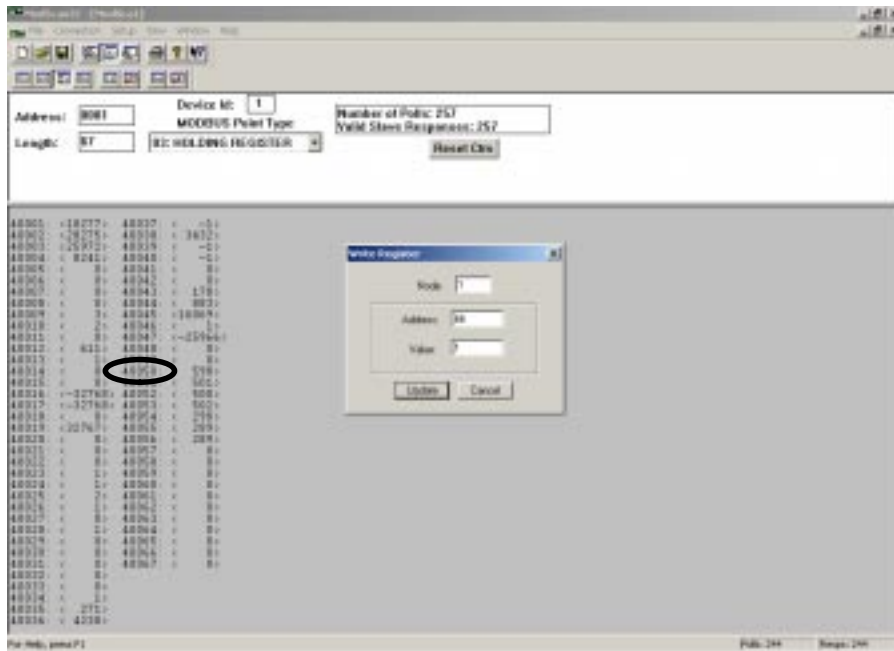

FIGURE 15. WRITE COIL DIALOG BOX
6. On the main ModScan menu (see Figure 15), change the Length to 49.